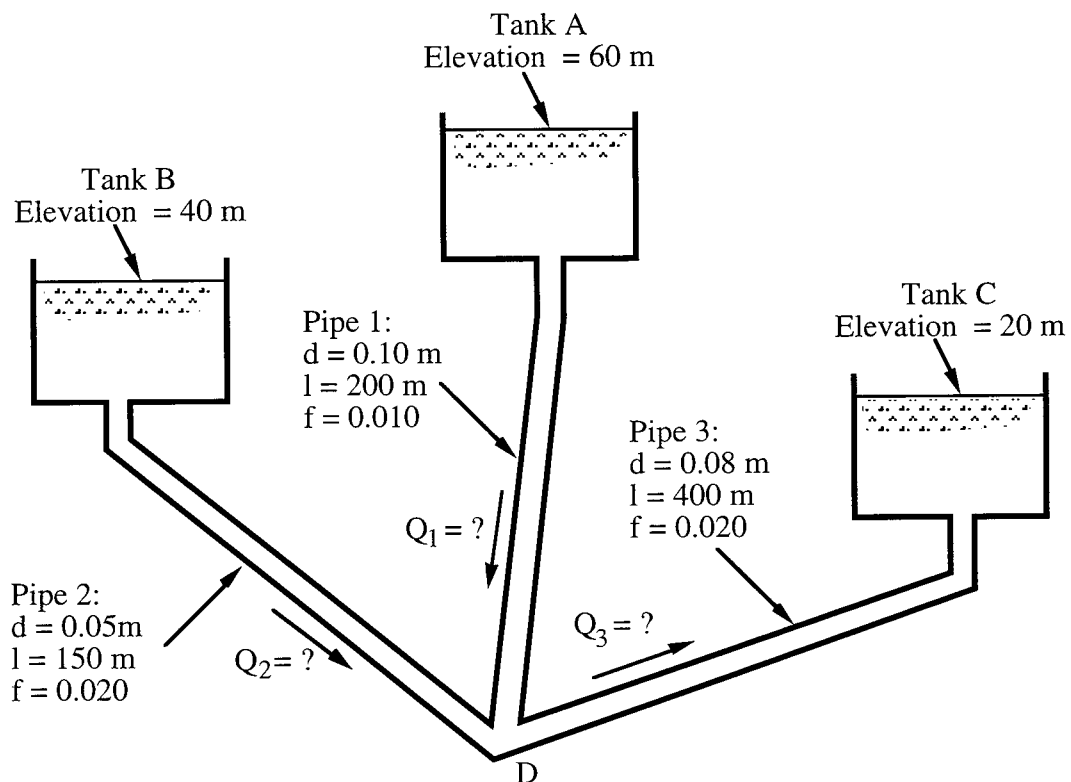

Figure 1.
- (b) The three water-filled tanks shown in Figure 1 below are connected by pipes as indicated.